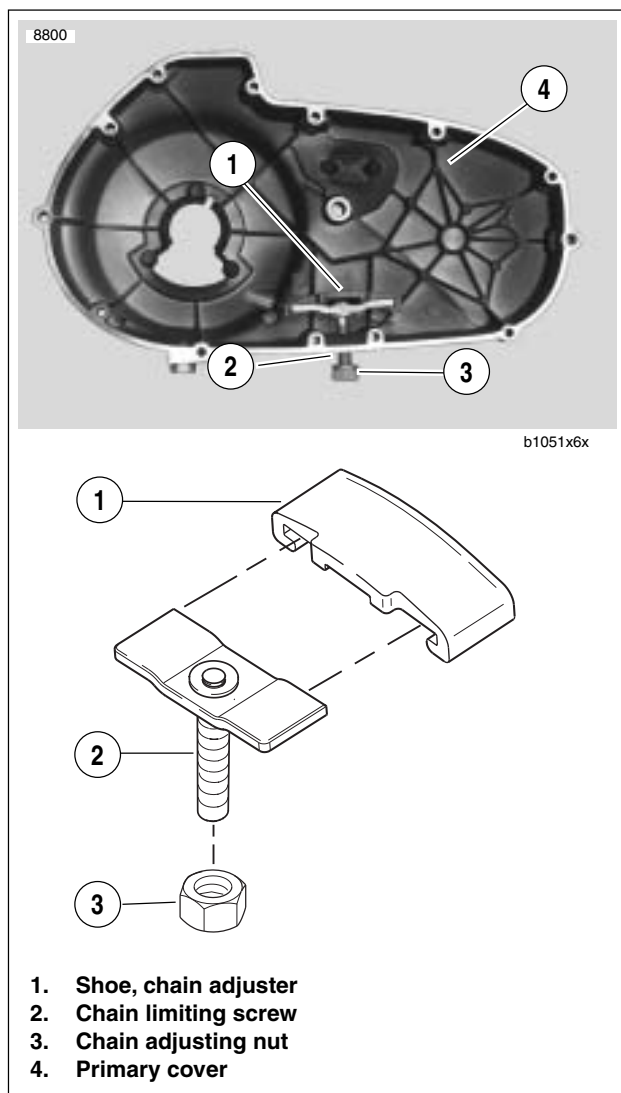

Figure 6-4. Primary Chain Adjuster
1. See Figure 6-4. Remove locknut (3) from adjuster screw (2). Turn adjuster screw out of threaded boss in primary cover (4).
3. See Figure 6-4. Inspect primary chain adjuster shoe (1). If badly worn or damaged, it must be replaced.
5. Position adjuster inside primary cover (4) with closed side of shoe against cover. Thread adjuster screw (2) all the way into tapped boss at bottom of primary cover.
6. At outside of cover, thread locknut (3) onto adjuster screw with nylon sealing surface toward cover. A 1/4-inch allen wrench may be inserted into end of adjuster screw to hold it while threading lock nut.